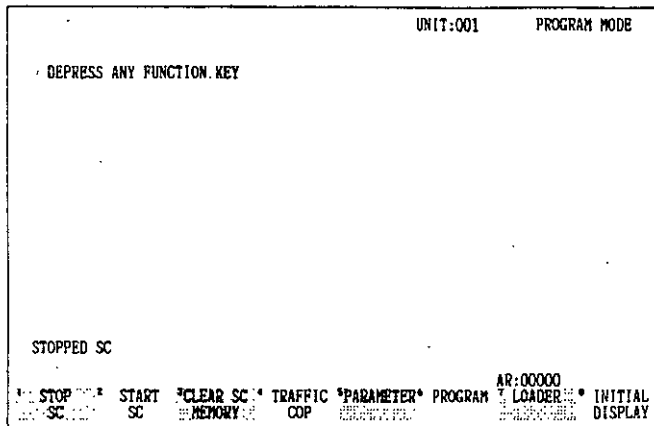

Fig. 4.8
Depressing **SUPERVISORY** key after ATTACH activation produces the display shown in Fig. 4.8, enabling the SUPERVISORY operations indicated in the label area.
3. Depressing **PREVIOUS DISPLAY** key calls Fig. 4.8.
3. Depressing the **PREVIOUS MENU** key after completion of parameter setting returns the display to the supervisory display (see Fig. 4.8).